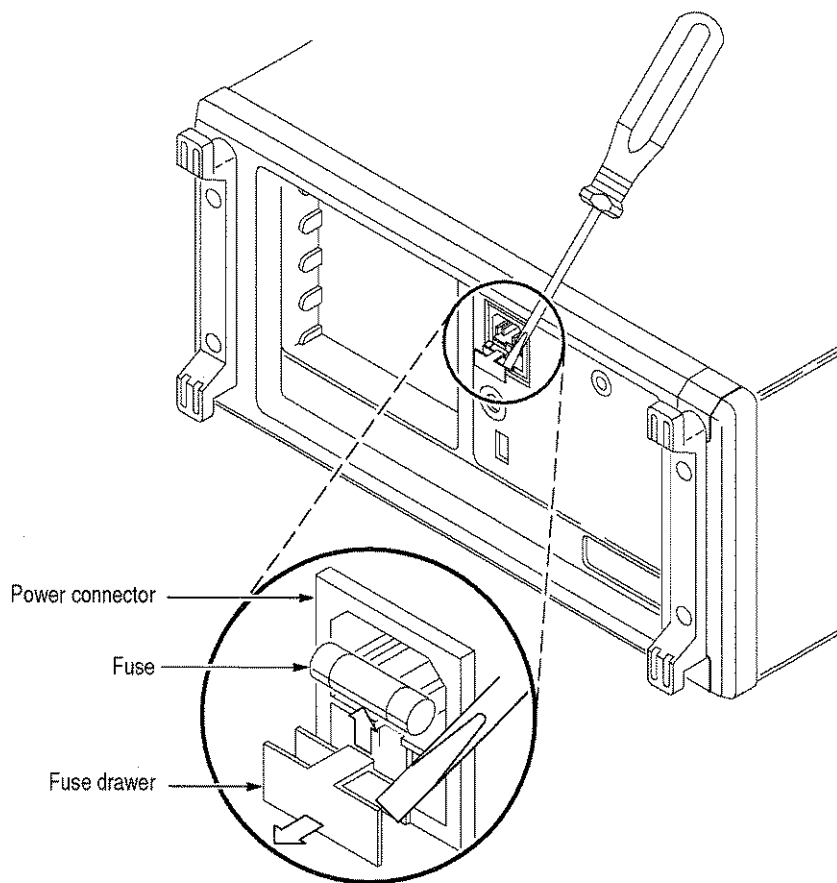

Figure 1-2: Line fuse removal
3. Find the line cord on the rear cover. (See Figure 1-2.) Unplug the line cord from its receptacle.
4. Find the fuse drawer beneath the line-voltage plug on the rear panel. Now, pry open the drawer with a small flat-bladed screwdriver, and remove the line fuse. (See Figure 1-2.)